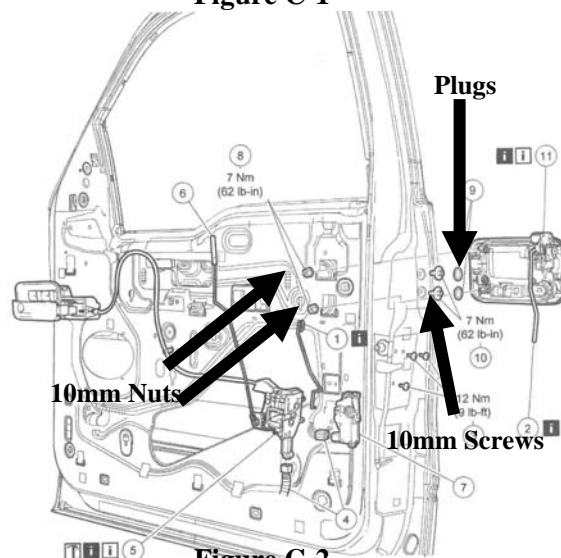

Figure C-2
➔ **Step 3:** Remove the two plastic plugs on the outside of the door. (Fig. C-2)
➔ **Step 4:** Remove the two 10mm screws and two 10mm nuts. (Fig. C-2)
**Step 4:** Install the two 10mm nuts and two 10mm screws that hold the handle in place, make sure everything is finger tight. **(Fig. C-2)**